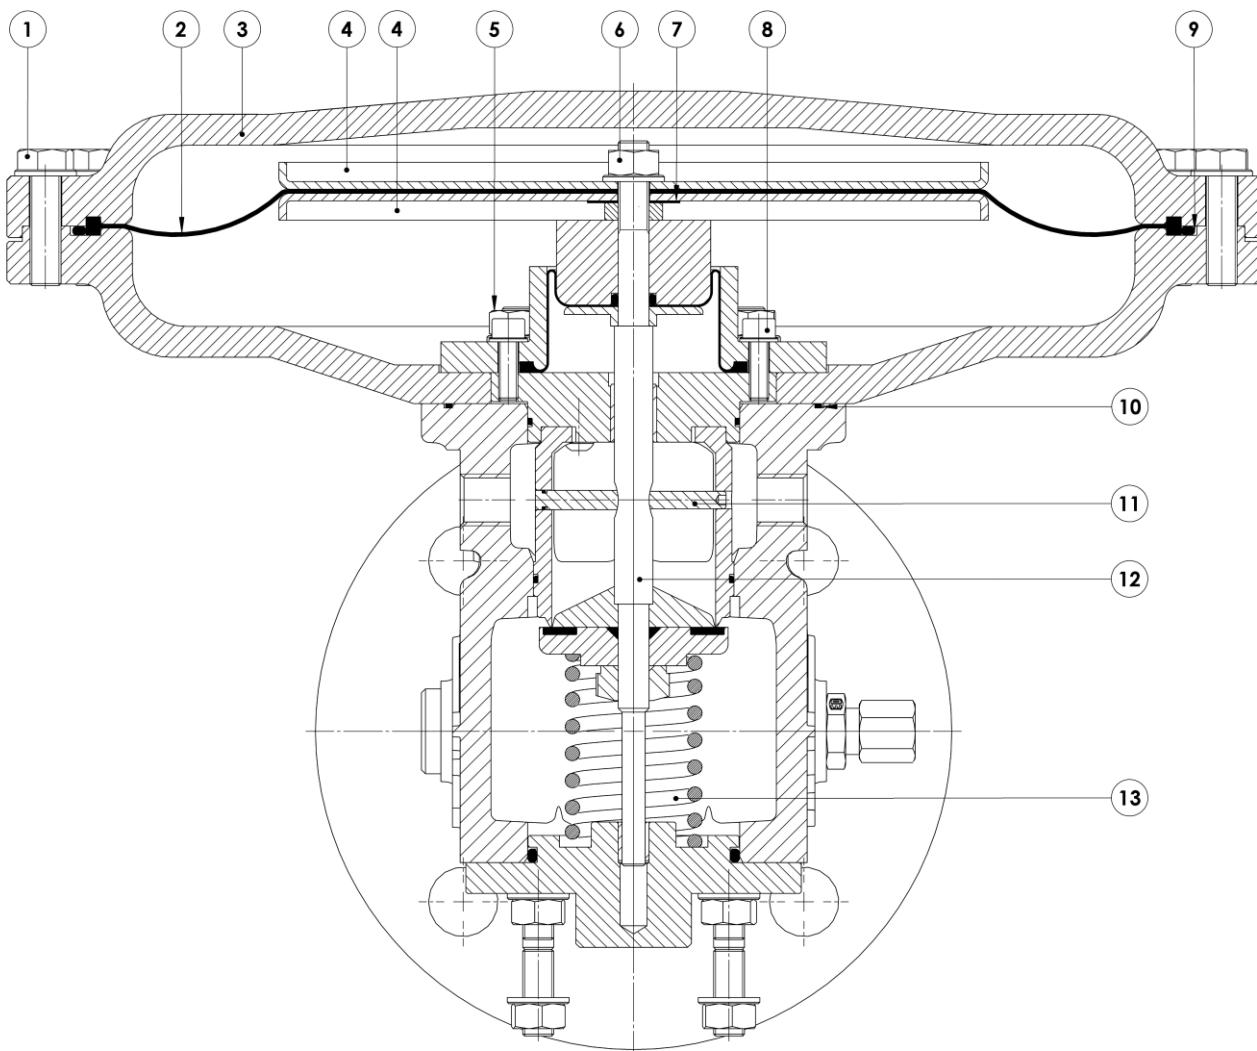

Figure 10
Unscrew all M8 bolts (1) evenly (see figure 10), do not remove the bolts and washers, but leave them in position to be removed at the same time as removing the upper diaphragm case (3). Position the diaphragm case in such a way that the bolts remain positioned in their holes. Remove the M8 nut (6) with its washer.
The blocking axis (11) must be positioned so that it is in line with both threaded holes in the side of the regulator housing (see figure 10).